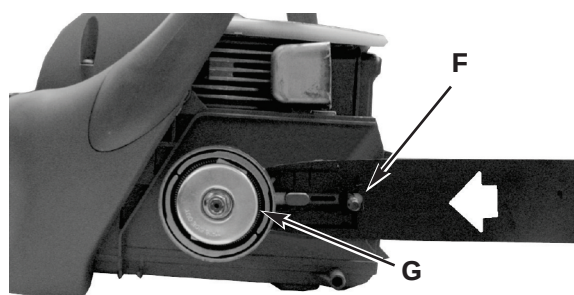

Fig. 19
3. To install bar, place the slotted end of the guide bar over the bar bolt (F). Slide guide bar behind clutch drum (G) until the guide bar stops (Fig. 19).